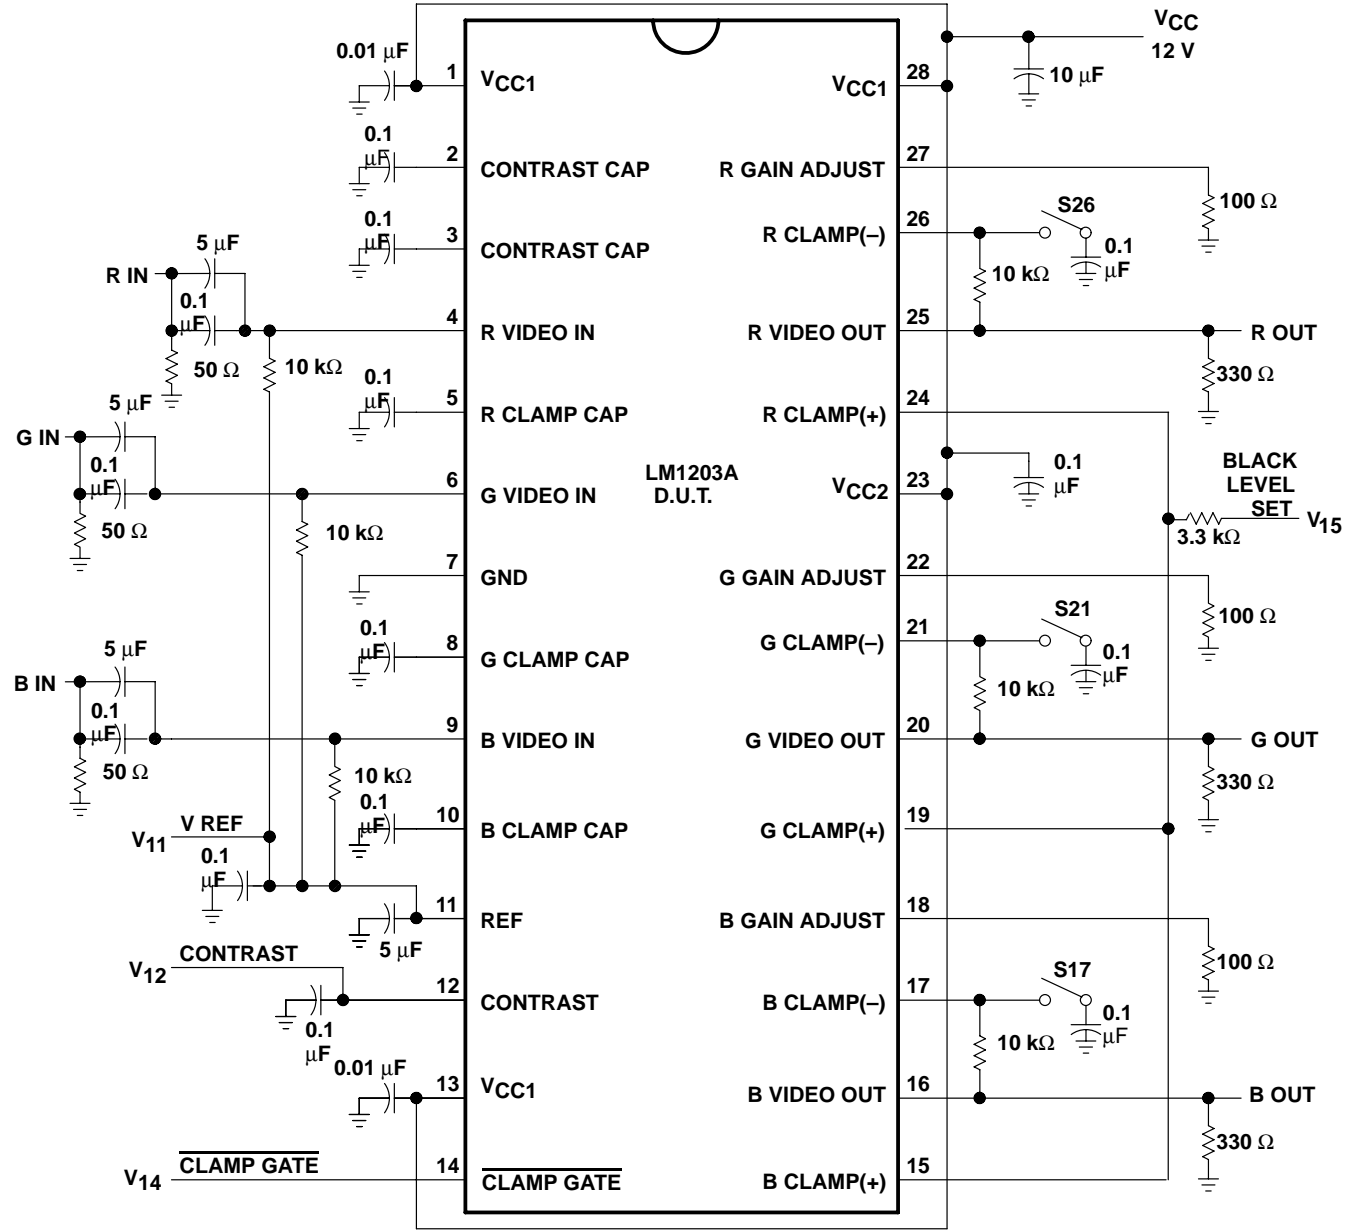

Figure 1. Test Circuit
**electrical characteristics at 25°C free-air temperature,  $V_{12} = 6\text{ V}$ ,  $V_{14} = 0$ ,  $V_{15} = 2\text{ V}$ ,  $V_{CC1} = V_{CC2} = 12\text{ V}$  (see Figure 1) (unless otherwise noted)**